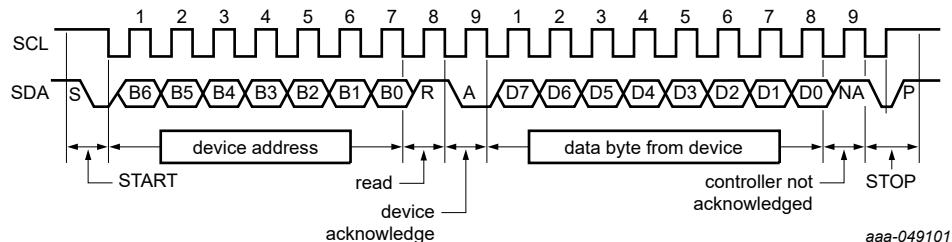
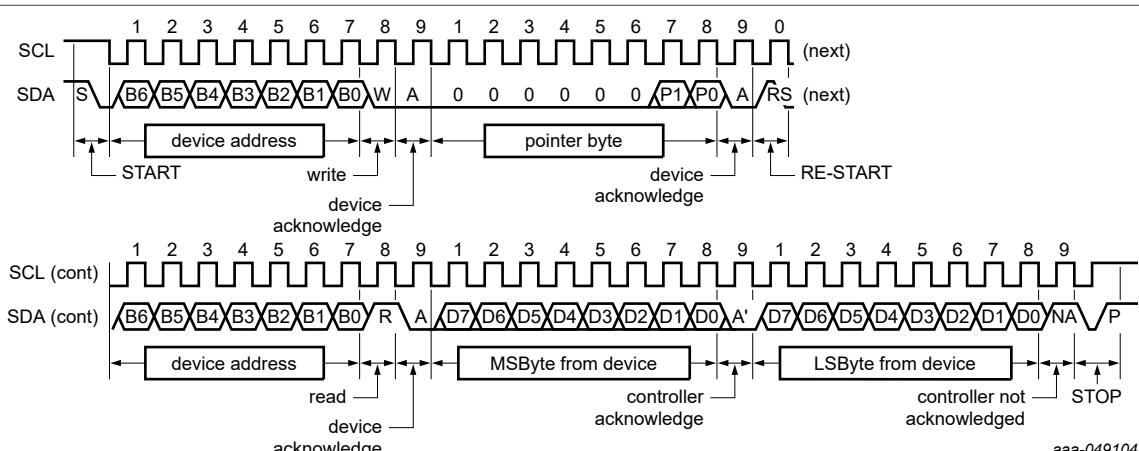

Figure 18. Read configuration or temp register including pointer byte (1-byte data)
Figure 20. Read register including pointer (2-byte data)
14. For best temperature accuracy both temperature bytes should be read as shown in Figure 20 and Figure 21, but for a quick less accurate check/reduce bus transmission then only one byte, the MSByte, needs to be read as shown in Figure 18.